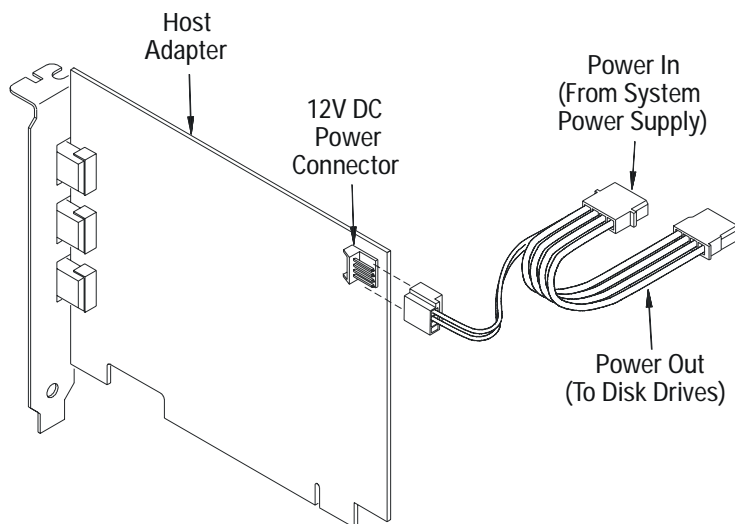

Figure 4-5
6. Connect the power splitter cable between the adapter and the PC as shown in Figure 4-5. (Your computer may already contain a power cable you can connect to the PCI card. If this is the case, connect that cable and do not use the cable that was shipped with the 1394 PCI card.)